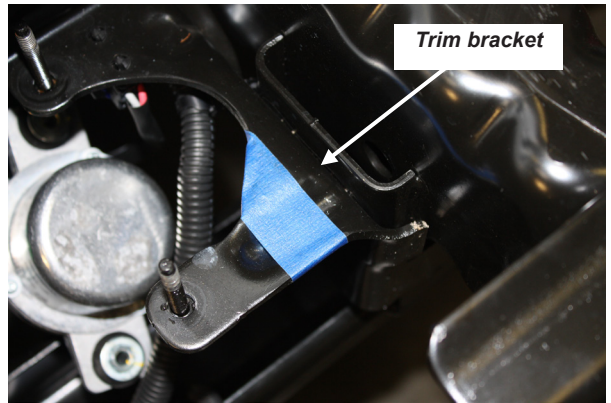
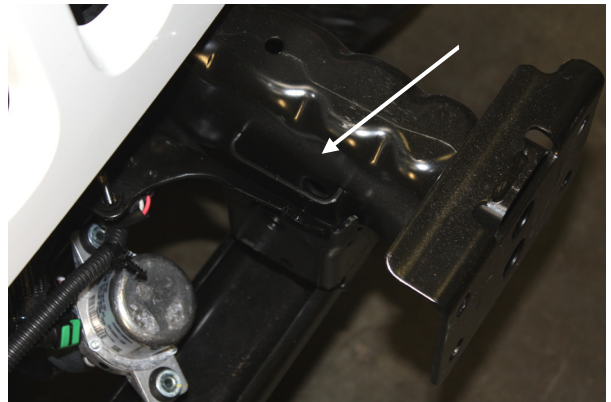

Figure 5
Figure 6
6. Remove the canister from the inside of the driver side frame rail if equipped. Remove the 2 nuts and lift the canister over the studs. Trim the canister bracket as shown in Figure 5. Use a hacksaw or reciprocating saw with metal blade. Be careful not to damage any lines or wires. Touch up raw edge with paint to prevent rust. Figure 6.